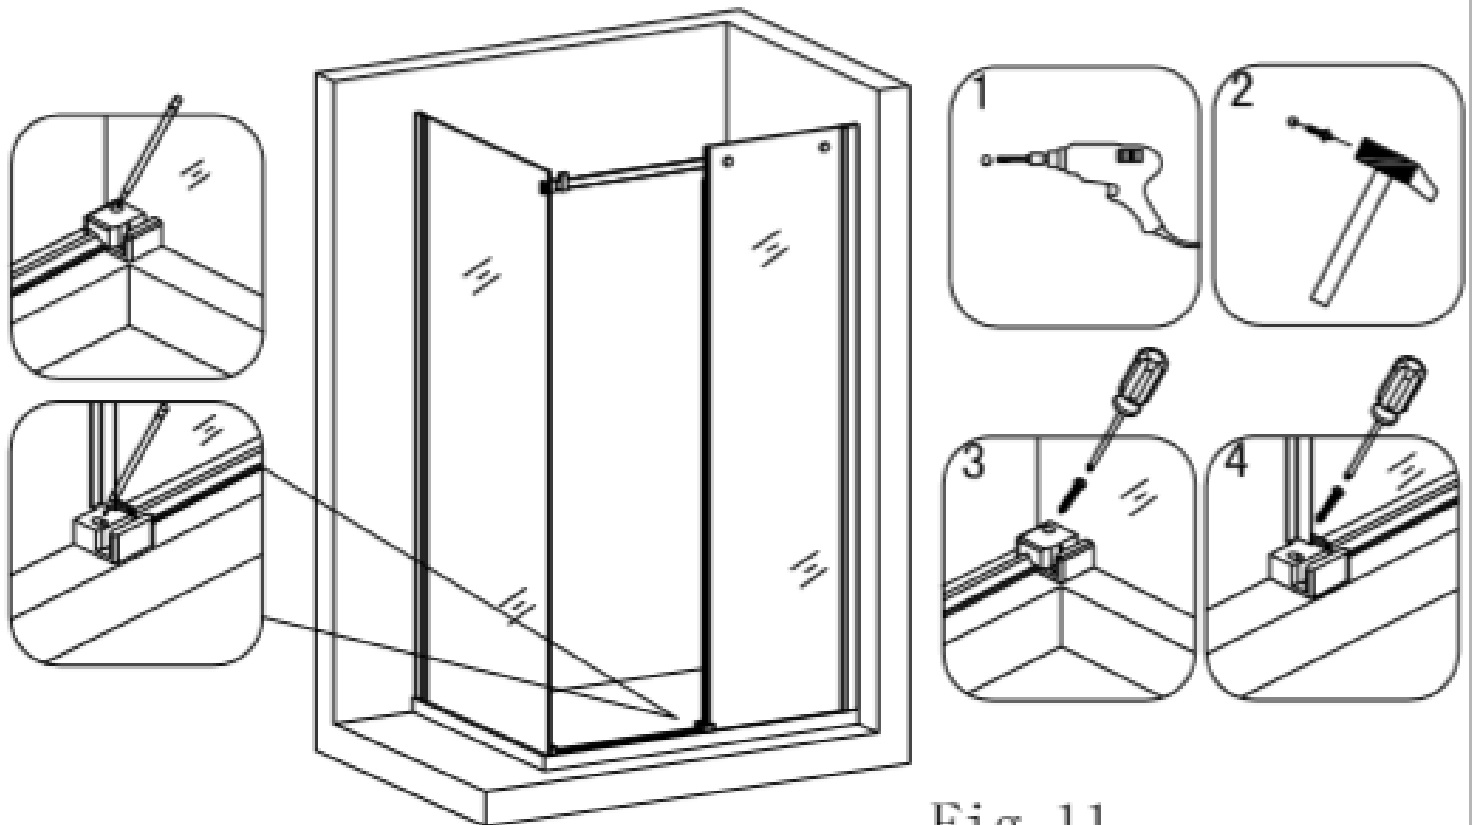

Fig 11
10. Make the marks through the predrilled holes on the side navigational block and middle navigational block. Drill holes and fasten with screws. (Fig 11)